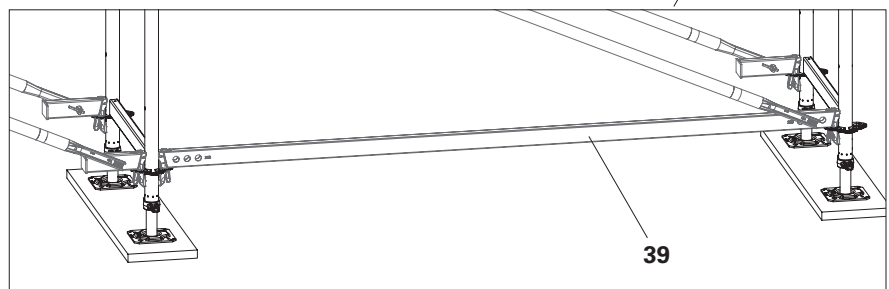

Fig. C4.03
Depending on the type of scaffold, a Horizontal Ledger UH-2 (39) must be fitted in the panel bay which adjoins the transition bay. (Fig. C4.03)